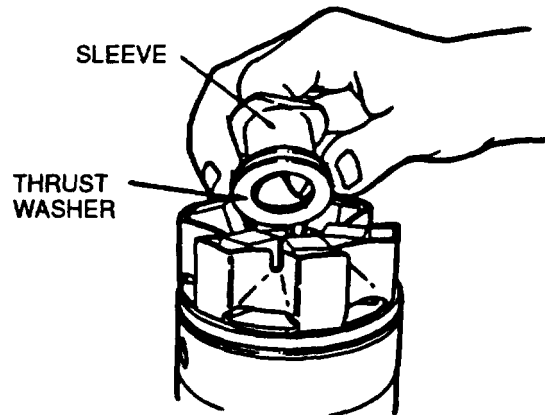

FIGURE 3-77. Installing Thrust Washer and Sleeve
- ak. Insert governor thrust washer (20, FIGURE 3-52) and sleeve (19) into lower slots of weights (18) by tilting weights outward slightly, refer to FIGURE 3-77.